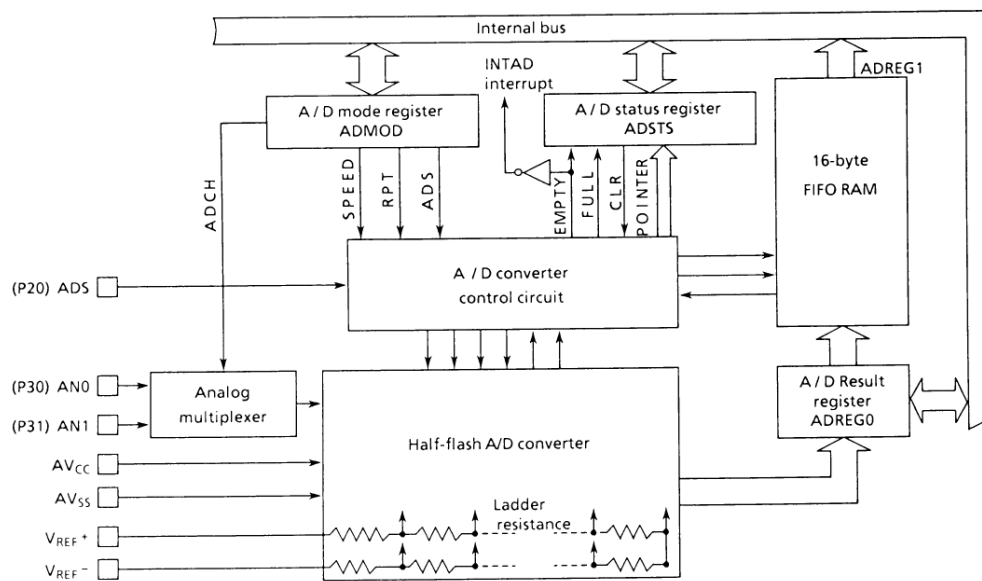

Figure 3.8 (1). A/D Converter Block Diagram
The A/D converter block diagram is shown in Figure 3.8 (1).